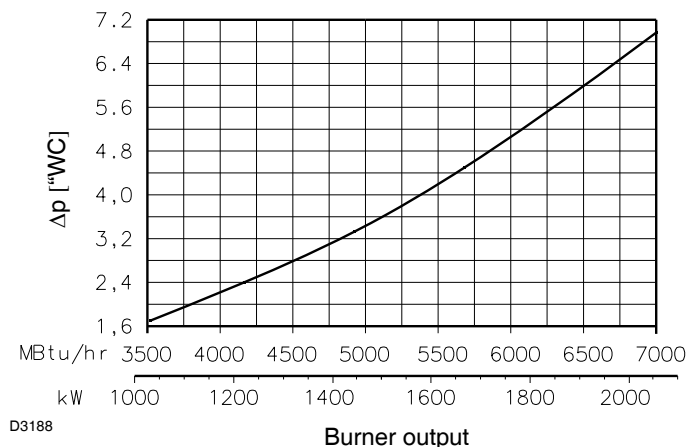

Fig. 30
- Find the nearest pressure value to your result in Fig. 30.